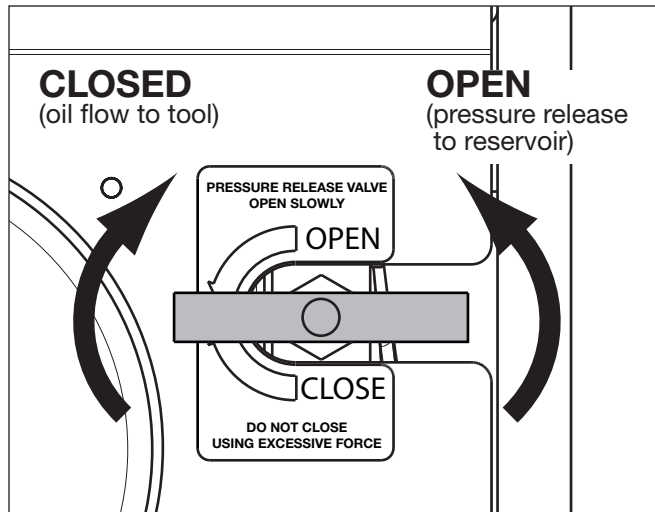
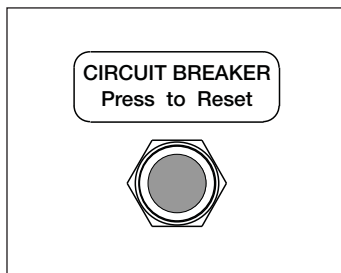

Figure 4, Pressure Release Valve
Figure 8, Circuit Breaker
5.1 Pressure Release Valve (See Figure 4)
Note: Pressure release valve (see Figure 4) must be fully closed to allow pressure to build while motor is running.
2. Fully close the pressure release valve. See Figure 4.
- If pressure is adjusted too high, relieve pressure by opening the pressure release valve (see Figure 4) until the pump pressure gauge indicates zero (0) psi/bar. Then, fully close the pressure release valve and repeat steps 6 through 8.
10. Slowly open the pressure release valve to relieve pressure in the oil outlet line. See Figure 4. Verify that pump pressure gauge indicates zero (0) psi/bar.
3. Close the pressure release valve. See Figure 4.
1. Slowly open the pressure release valve to relieve system pressure. See Figure 4.
2. Verify that the pump pressure gauge indicates zero (0) psi/bar.
5.6 Circuit Breaker (See Figure 8)